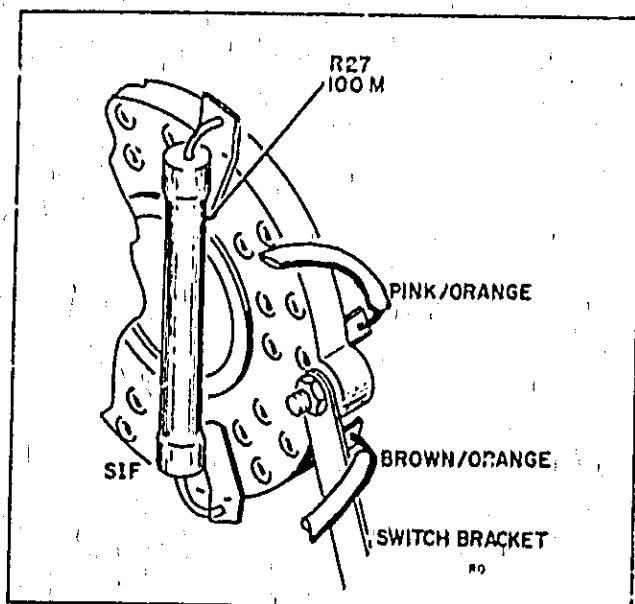

Figure 5. Range Switch Bracket Detail
19) Refer to figure 5. Unsolder brown-orange and pink-orange wires from rear wafer of RANGE switch. Note color code identification of these wires with respect to switch terminals.
- 21) Disconnect switch mounting bracket at rear of RANGE switch (see figure 5).
- 38) Solder brown-orange wire from junction of C114 (.051  $\mu$ f) and R117 (2.7 megohms) to terminal lug on RANGE switch wafer S1F to agree with figure 5.
- 39) Solder pink-orange wire from R116, BIAS ADJ control, to S1F to agree with figure 5.